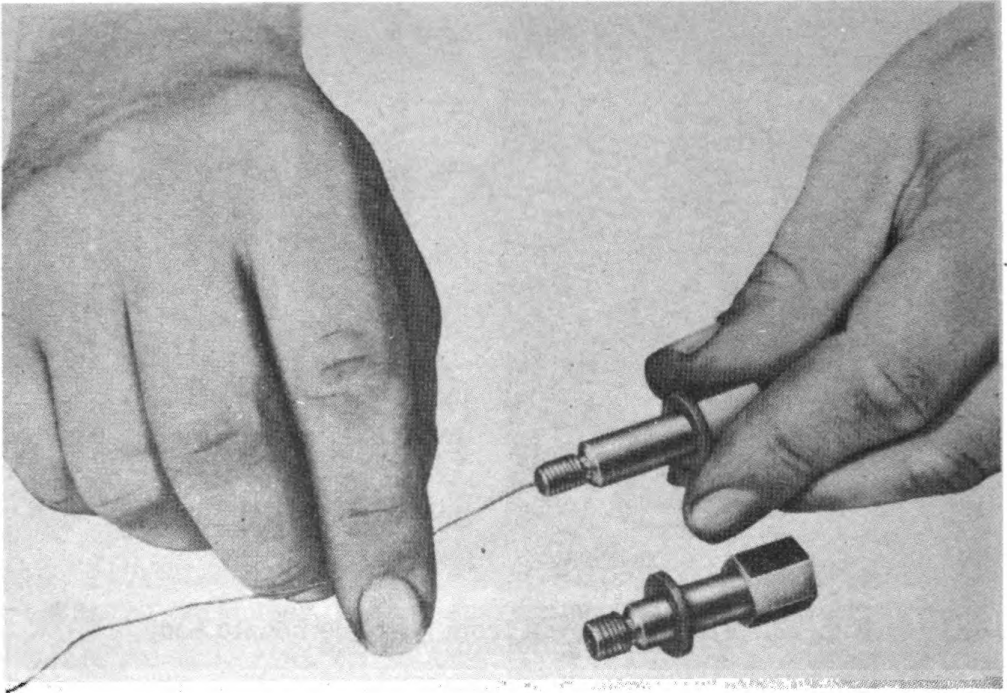

Fig. 73. Using clean-out wire in nozzle body.
(2) Clean air and gasoline nozzles by inserting clean-out wire through externally threaded end (fig. 73). Wash in cleaning solvent and replace.